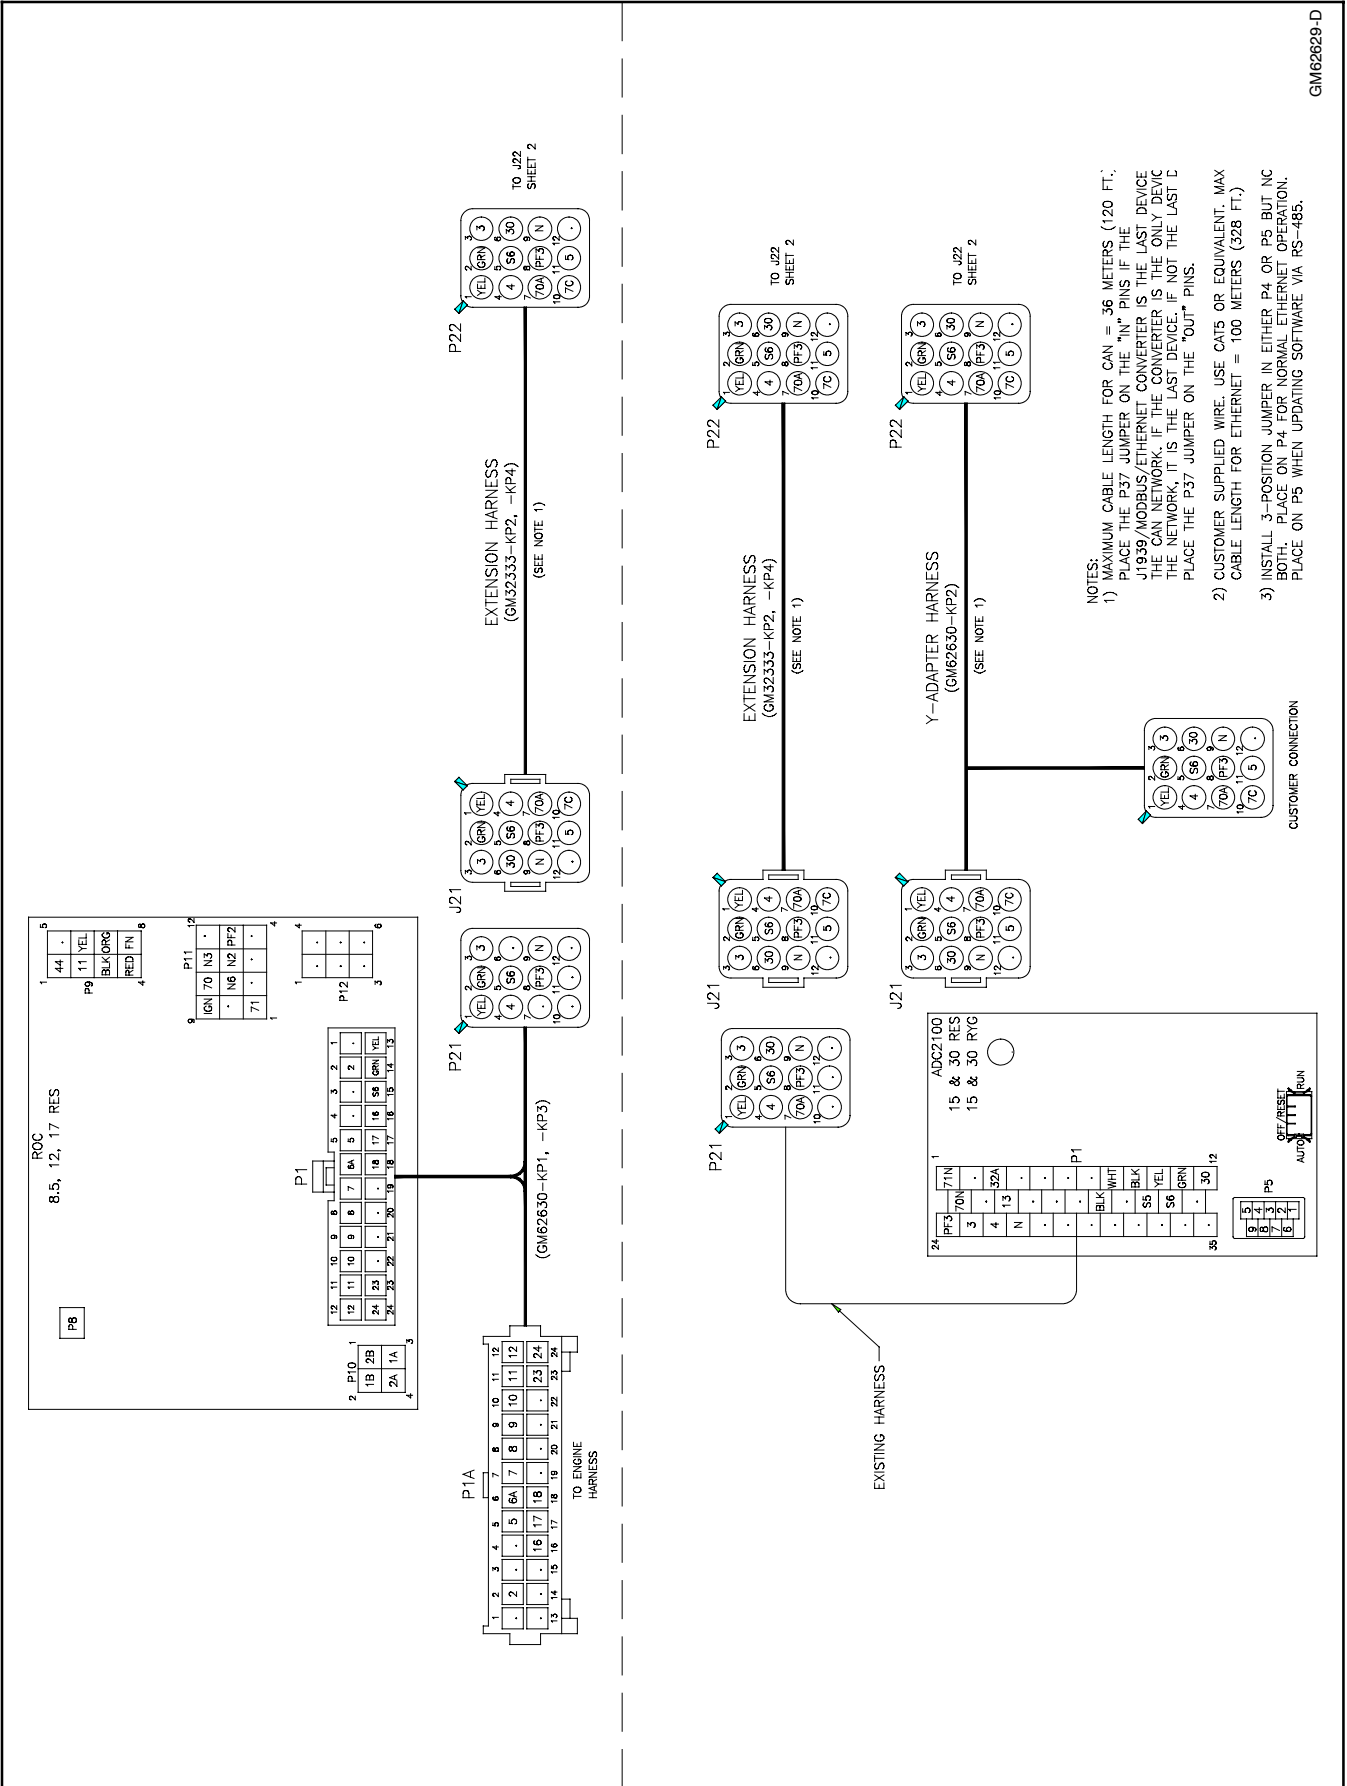

Figure 21 Network Connection Diagram GM62629-D, Sheet 1
1. Disconnect the engine harness from the controller at the large P1 connector. See Figure 21.
2. Connect the mating connectors of Y-harness GM62626 to the controller and the engine harness. See Figure 21. For the 17/18RES, thread the smaller P21 connector of the Y-harness through the opening made in the junction box in step 7c.
2. Connect Y-harness GM65797 to the disconnected plug and to the customer interface connector. See Figure 21.